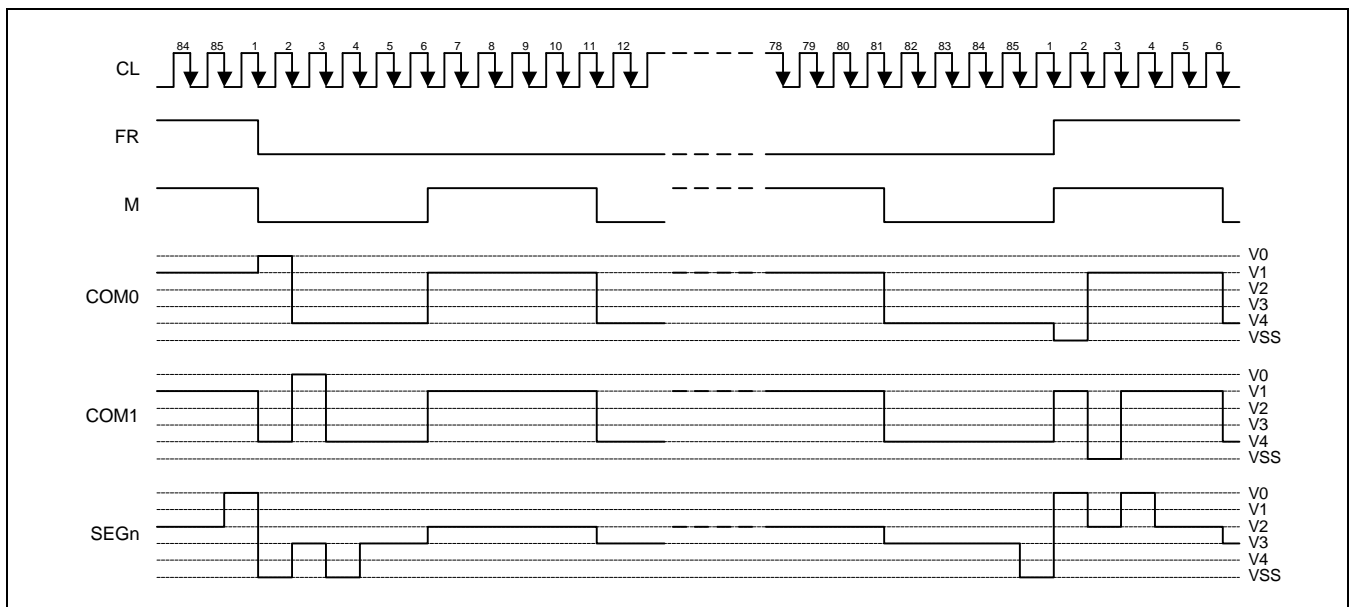

Figure 10. N-line Inversion Driving Waveform (N = 5, Duty Ratio = 1/85)
This circuit generates some signals to be used for displaying LCD. The display clock, CL, generated by oscillation clock, generates the clock for the line counter and the signal for the display data latch. The line address of on-chip RAM is generated in synchronization with the display clock (CL) and the display data latch circuit in synchronization latches the 160-bit display data with the display clock. The display data, which is read to the LCD driver, is completely independent of the access to the display data RAM from the microprocessor. The display clock generates an LCD AC signal (M) which enables the LCD driver to make a AC drive waveform, and also generates an internal common timing signal and start signal to the common driver. The frame or the line changes the phase of M by setting internal instruction. Driving waveform and internal timing signal are shown in figure 10.